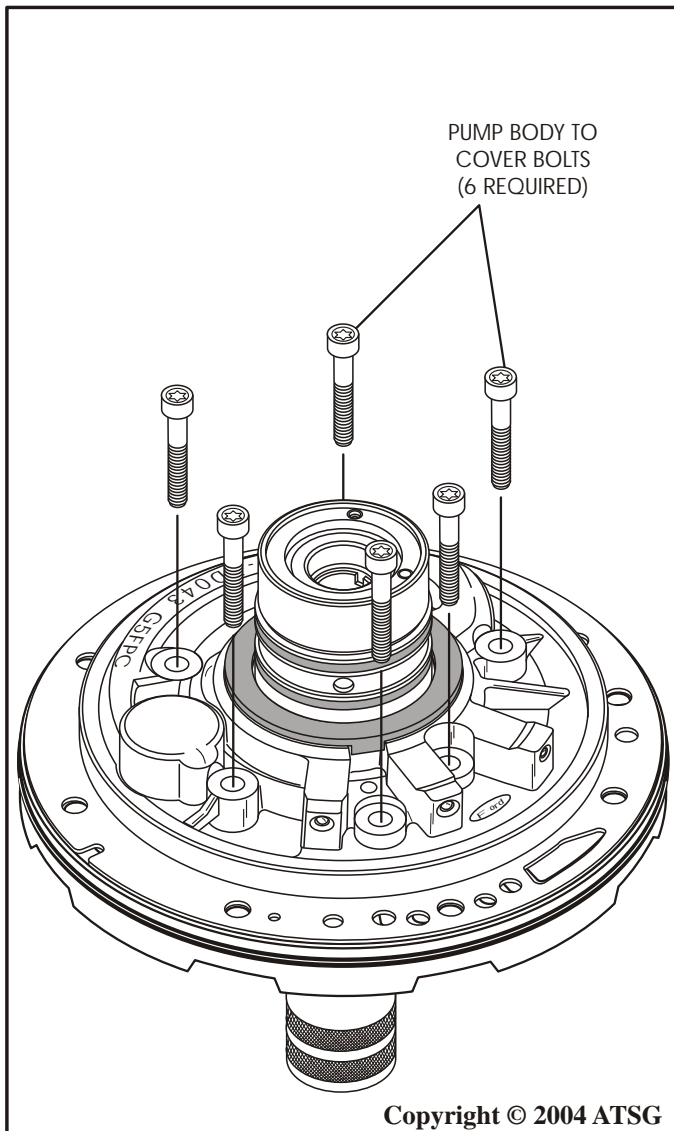

Figure 64
17. Turn the assembly over and install the six bolts that retain the body to the cover, as shown in Figure 64.